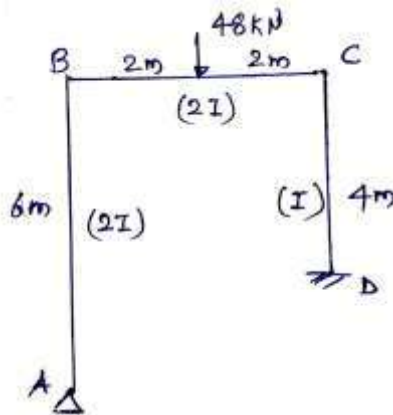

Fig.6
- Q.9 Analyze the frame shown in fig.6 by using moment distribution method & draw BMD.
- Q.9 Analyze the portal frame shown in fig.6 using moment distribution method & draw BMD. Assume uniform flexural rigidity.